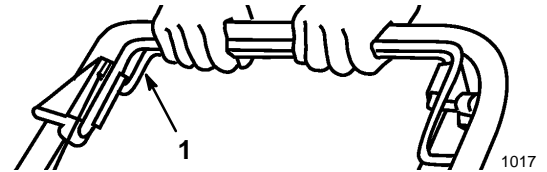

Figure 11
1. To operate the self-propel drive, squeeze the self-propel bail against the handle and hold it (Fig. 11).